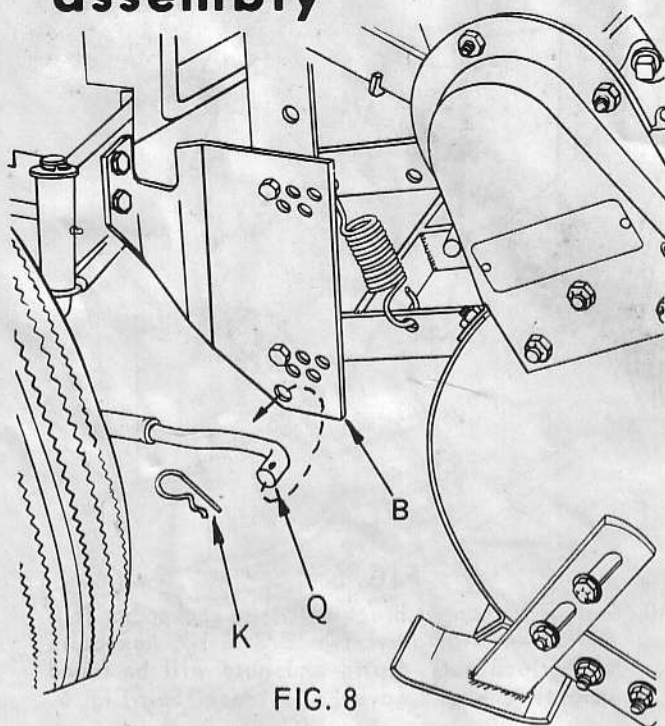

FIG. 8
12. Refer to Fig. 8. Assemble R.H. push rod (Q) to hanger bracket R.H. (B) as shown and secure with spring retainer (K).